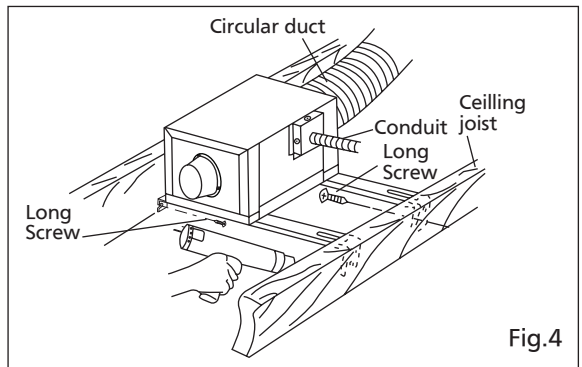

Fig.4
- Attach the In-Line Fan to a joist or a pillar with the long screws. (Fig.4)